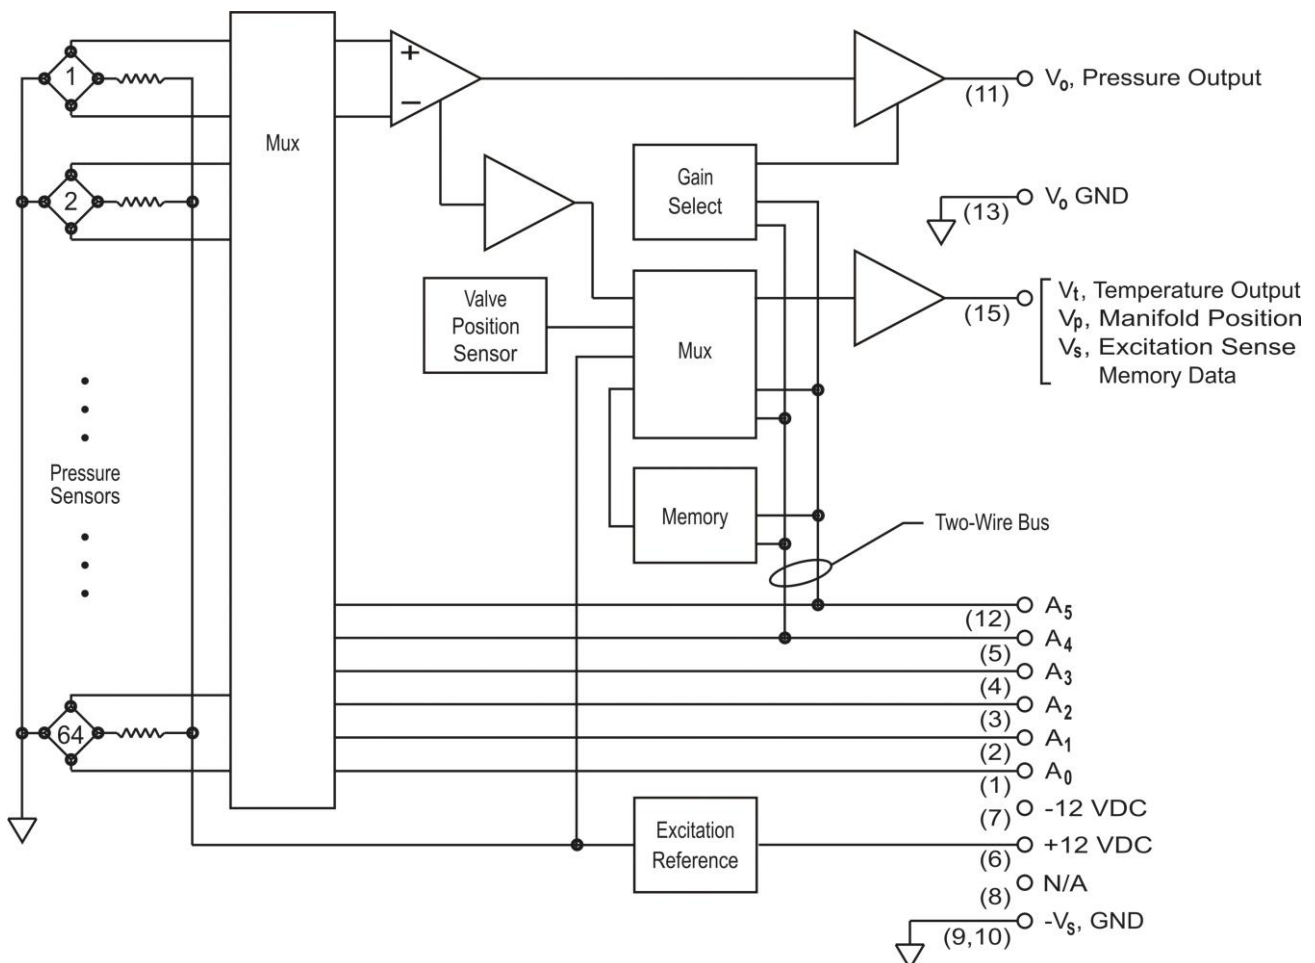

Figure 3-1
Although DTC Series ESP scanners contain additional functionality, compatibility with conventional ESP scanners has been maintained. A block diagram of the DTC scanner is depicted in **Figure 3-1**. The sensor's excitation is internally derived from the +12 VDC power to improve regulation and to eliminate the need for another externally regulated supply. The scanner's calibration coefficients are stored in a 64K bit serial EEPROM. The dual gain amplifier, in conjunction with the optional dual range calibration, allows a Windtunnel model to be tested in various configurations without changing to scanners of another pressure range. A second multiplexed analog line outputs temperature sense, excitation sense, and calibration manifold position signals as well as being used to output memory data. The six (6) digital address lines select one of the scanner's pressure sensors to be present on the voltage output line V_0 . Address lines A_4 and A_5 also support a two-wire serial bus to access the EEPROM, select gain, or select the second multiplexed analog output.